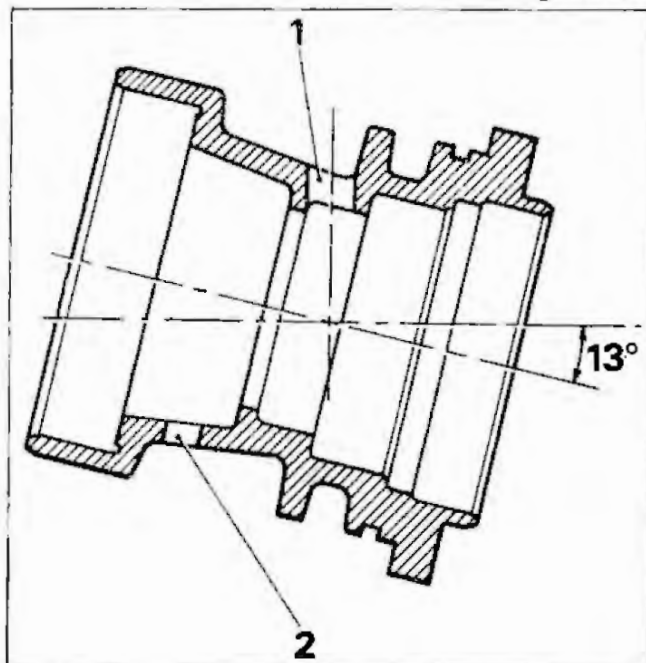

Fig. 2
- 3 Tilt the pinion housing to an angle of 13 degrees from the horizontal plane (see fig. 2) and secure it in the vice.